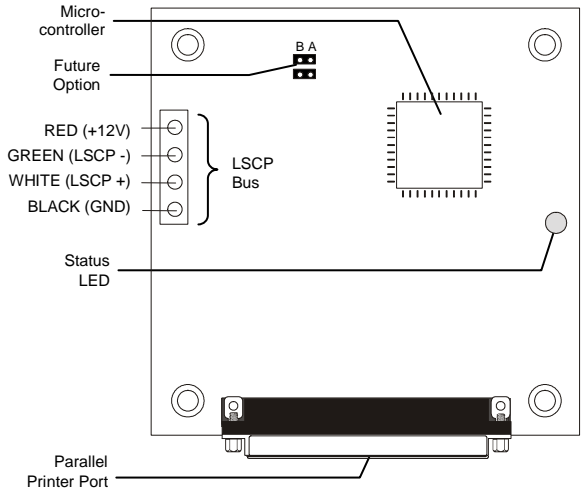

Figure 1: 3800 Printer Module
3. Connect the 4-pin terminal block to the control panel's LSCP bus as shown in Figure 1.